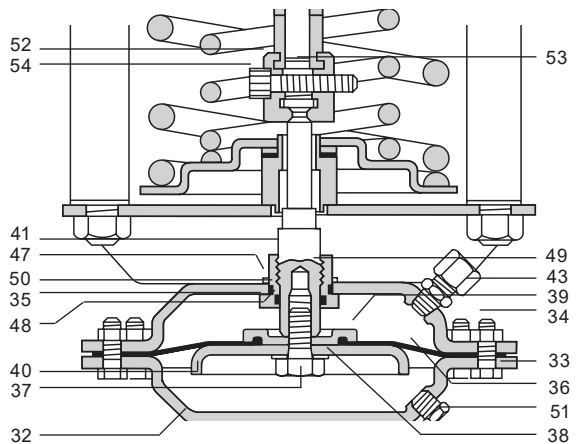

Fig. 10 DN25 to DN50 (Parts 42 and 46 not shown)
4.4.1 Actuator spares (Figure 10):